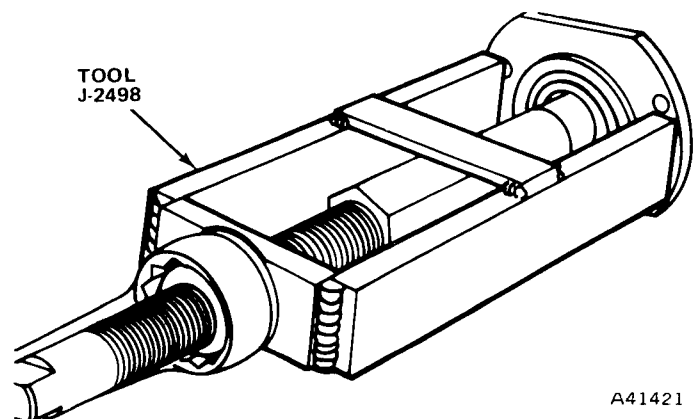
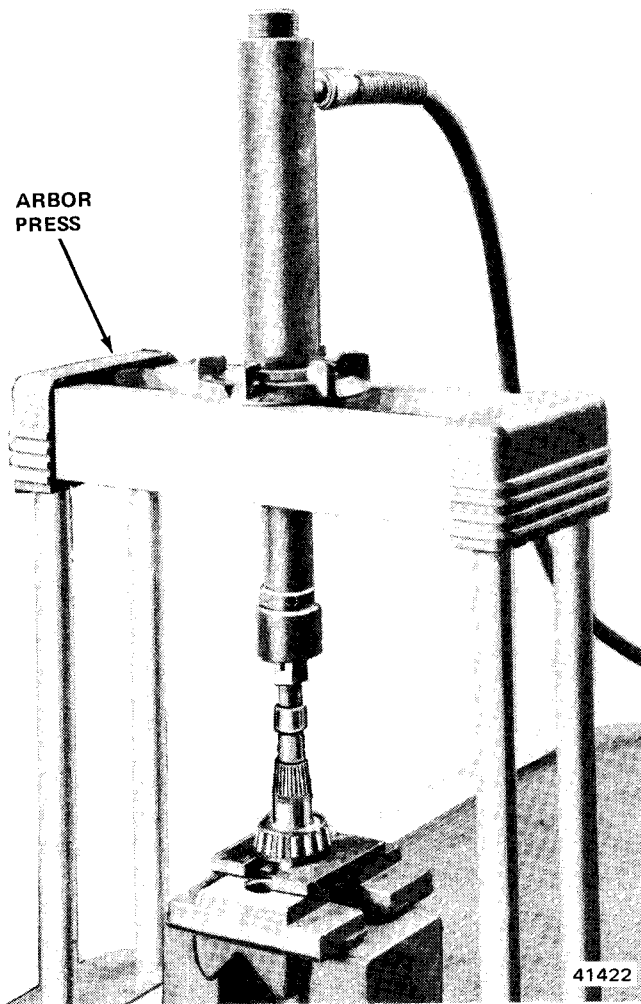

Fig. 10-19 Removing Axle Shaft
Fig. 10-20 Removing Axle Shaft Bearing
- (1) Remove rear wheel, drum, and hub as outlined in Rear Axle Hub Replacement.
- (2) Disconnect parking brake cable at equalizer.
- (3) Disconnect brake line at wheel cylinder and remove brake support plate assembly, oil seal, and shims from axle shaft.
- (4) Use Axle Shaft Bearing Puller Tool J-2498 to remove axle shaft and bearing (fig. 10-19).
- (5) Remove and discard axle shaft inner oil seal.
**NOTE:** Bearing cone is press-fit on axle shaft and must be removed using an arbor press (fig. 10-20).